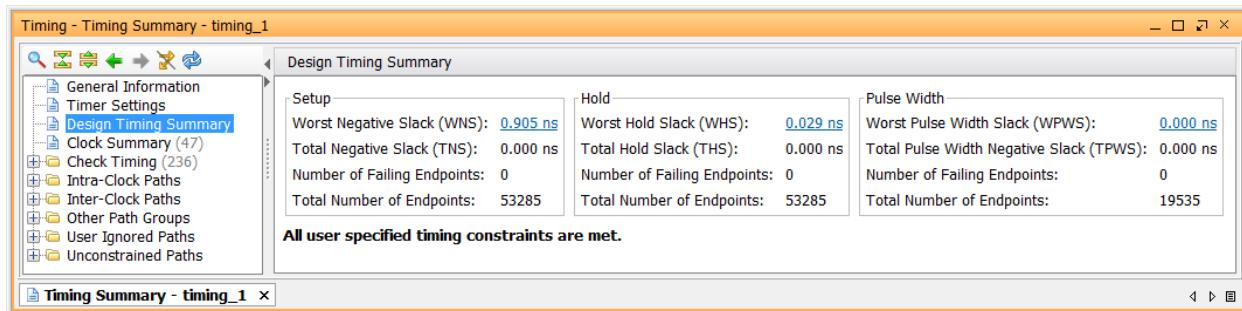

Figure 135: Timing Summary
10. Verify that all timing constraints have been met by looking at the Timing - Timing Summary window, as shown in Figure 135.